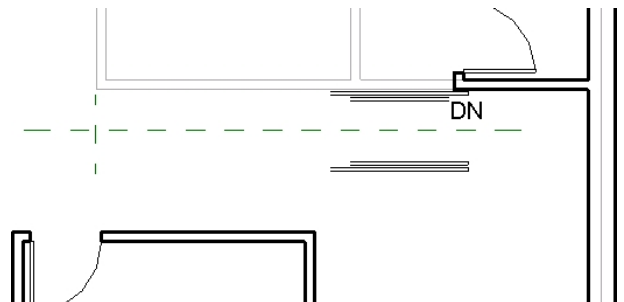

Figure 3.109
10. In the Draw panel, click either the Rectangle or Line tool to sketch an opening, as shown in Figure 3.109. Click the Finish Edit Mode button to finish the editing of the floor boundary sketch. Click Yes to accept having the walls attach to the bottom of the floor level (Figure 3.110).